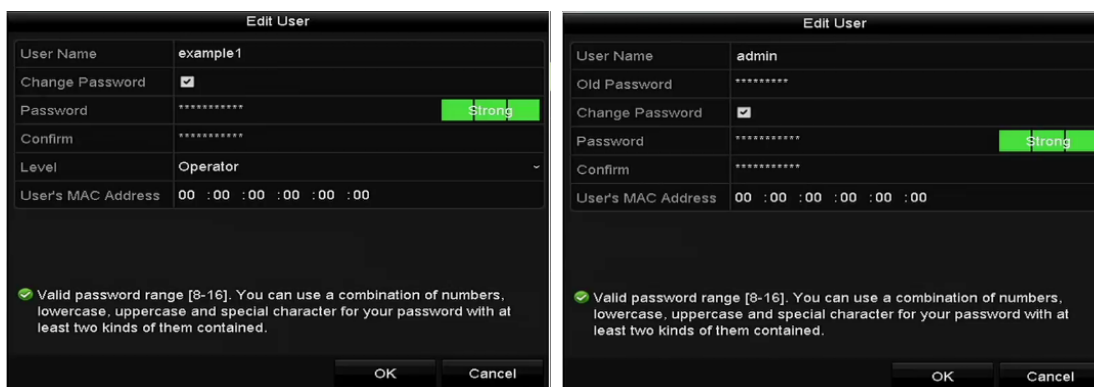

Figure 13. 10 Edit User Interface
3. Click the icon to enter the Edit User interface, as shown in Figure 13. 10.